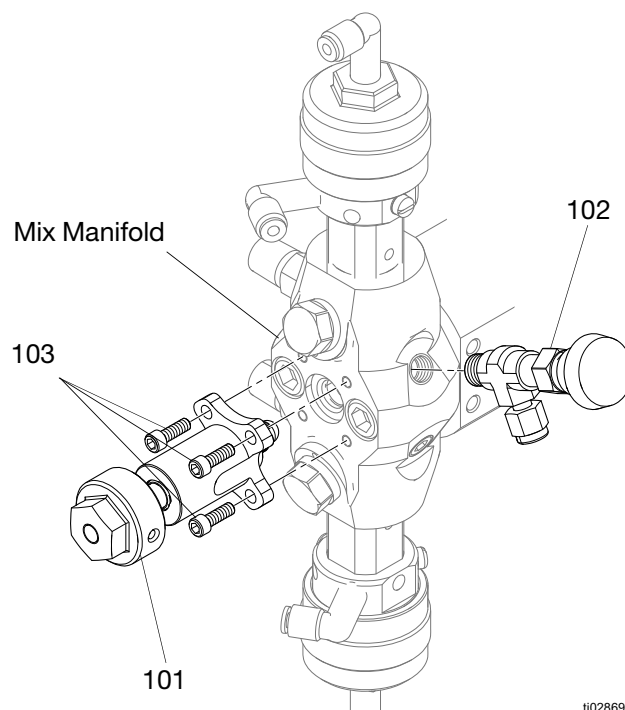

FIG. 2: Install Sampling Valve
4. Apply a small amount of grease on the seal on the calibration shutoff valve (101), then install the calibration shutoff valve. See FIG. 2.
6. Apply thread sealant to the needle valve threads, then install the needle valve (102) onto the mix manifold. See FIG. 2.
7. If necessary, install a customer supplied hose from the needle valves (102).